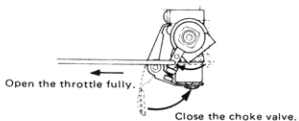

Fig. 21
- 3) Open the throttle valve fully, close the choke valve and turn the propeller counter-clockwise through three revolutions. (Figs. 21 & 22)